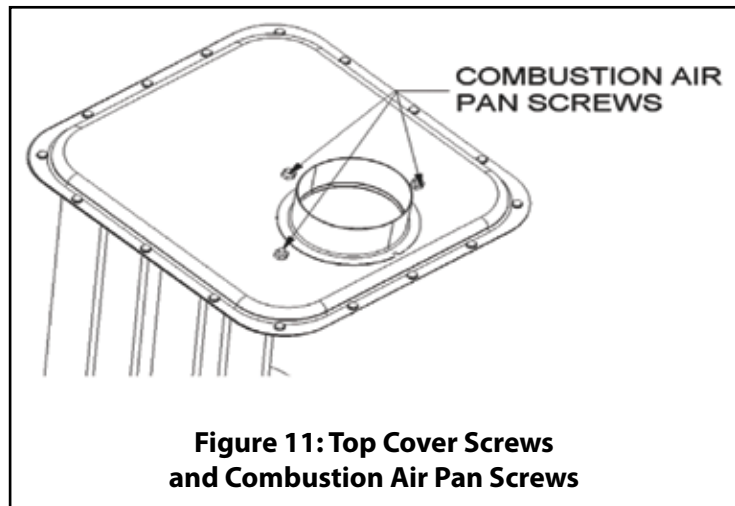

Figure 11: Top Cover Screws and Combustion Air Pan Screws
8. Remove the 3 screws from the combustion pan cover. Refer to Figure 11.